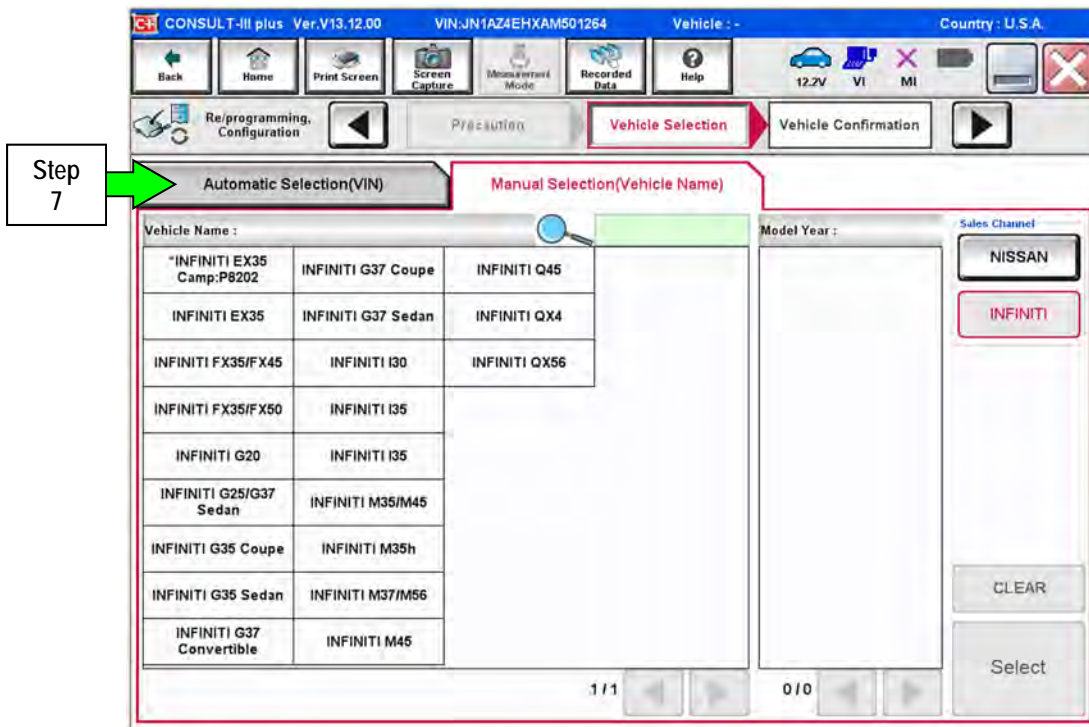

Figure 3
7. If the screen in Figure 3 displays, select **Automatic Selection(VIN)**.
8. If the screen in Figure 3 does not display, skip to step 9.